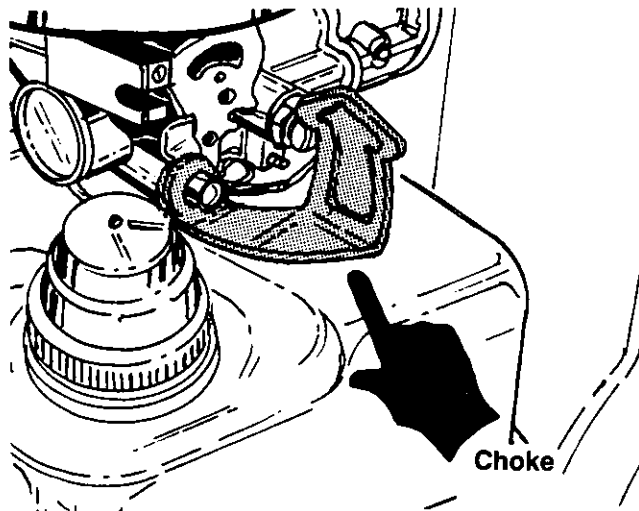

FIGURE 21.
- Move choke lever to CHOKE position. See figure 21. After the engine starts, gradually push the choke lever off.